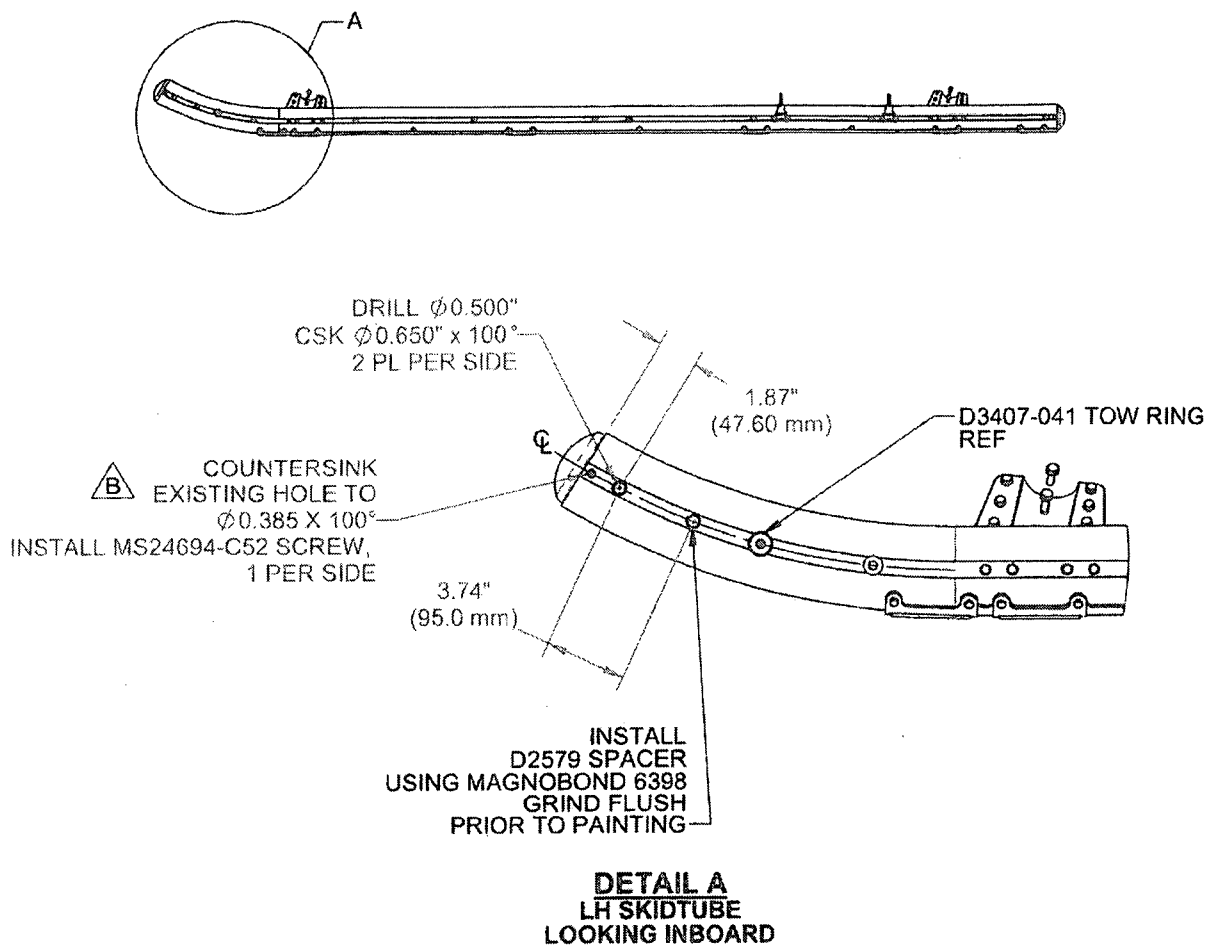

FIGURE 1. MODIFIED D119-646-XXX SKIDTUBE
- 2.2 Mark holes in the center ridge as shown in Figure 1. Drill through skidtube with Ø0.500" (12.7 mm drill), and countersunk to Ø0.650 x 100°, two places per side.
- 2.5 Bond D2579 spacers into the Ø0.500 holes center in the skidtube using Magnobond 6398. Grind flush prior painting as shown in Figure 1.